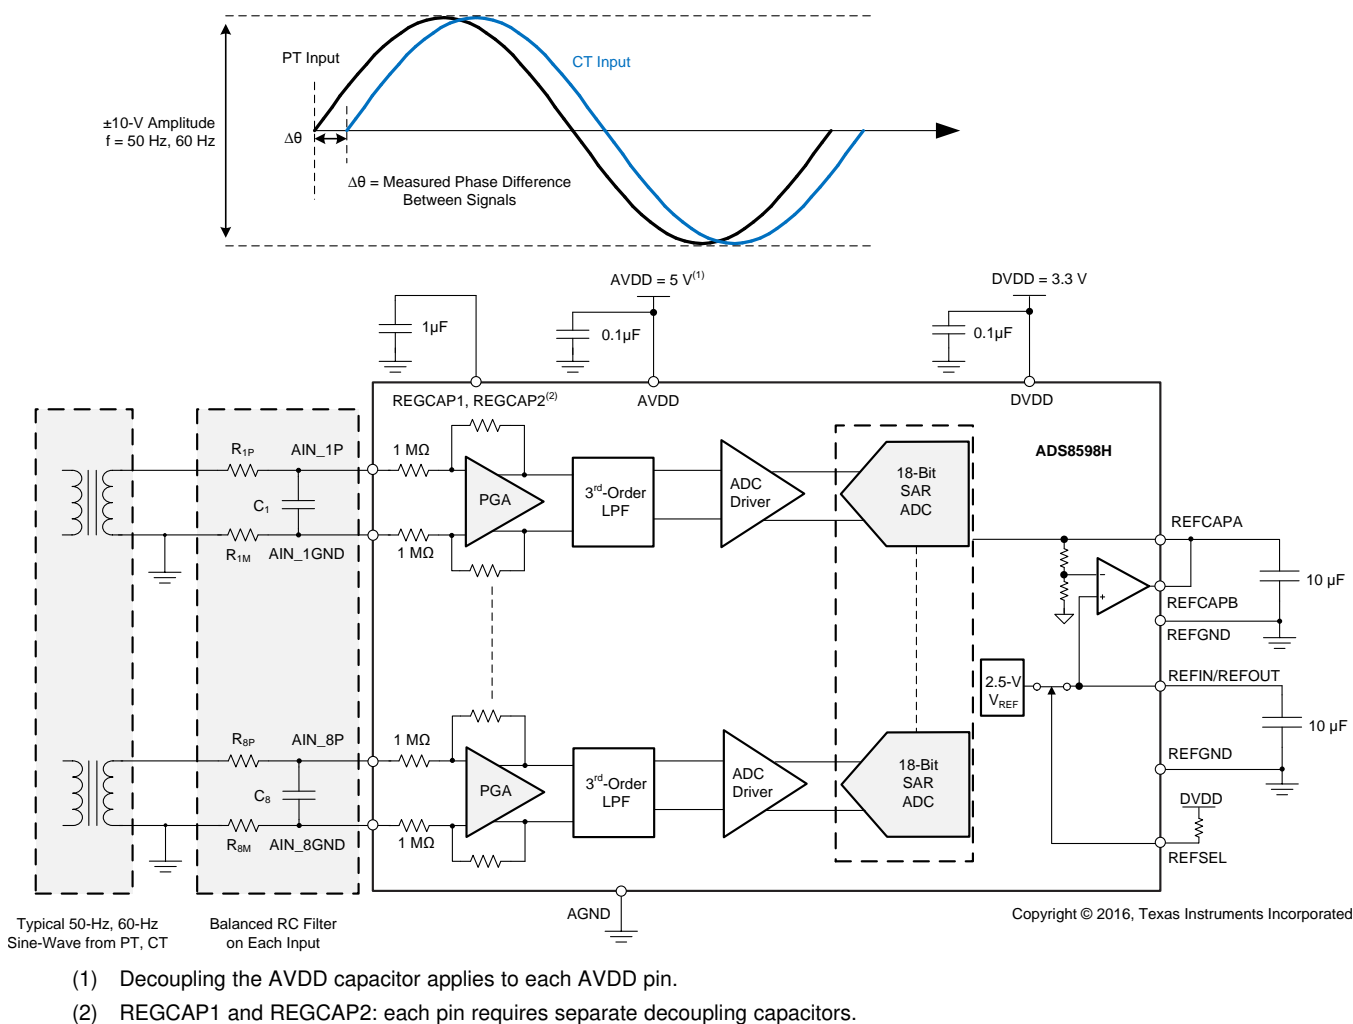

Figure 84. 8-Channel DAQ for Power Automation Using the ADS8598H
- Output range of the potential transformers (elements labeled PT in Figure 84)
- Output range of the current transformers (elements labeled CT in Figure 84)
The PT and CT used in the system, as illustrated in Figure 84, have a ±10-V output range. Although PT and CT provide isolation from the power system, a series resistor must be placed on the analog input channels. The series resistor helps limit the input current to ±10 mA if the input voltages exceed ±15 V. For applications that require protection against overvoltage or fast transient events beyond the specified absolute maximum ratings of the device, an external protection clamp circuit using transient voltage suppressors (TVS) and ESD diodes is recommended.
The primary goal of the data acquisition system illustrated in Figure 84 is to measure up to 20 harmonics in a 60-Hz power network. Thus, the analog front-end must have sufficient bandwidth (as shown in Equation 1) to detect signals up to 1260 Hz.